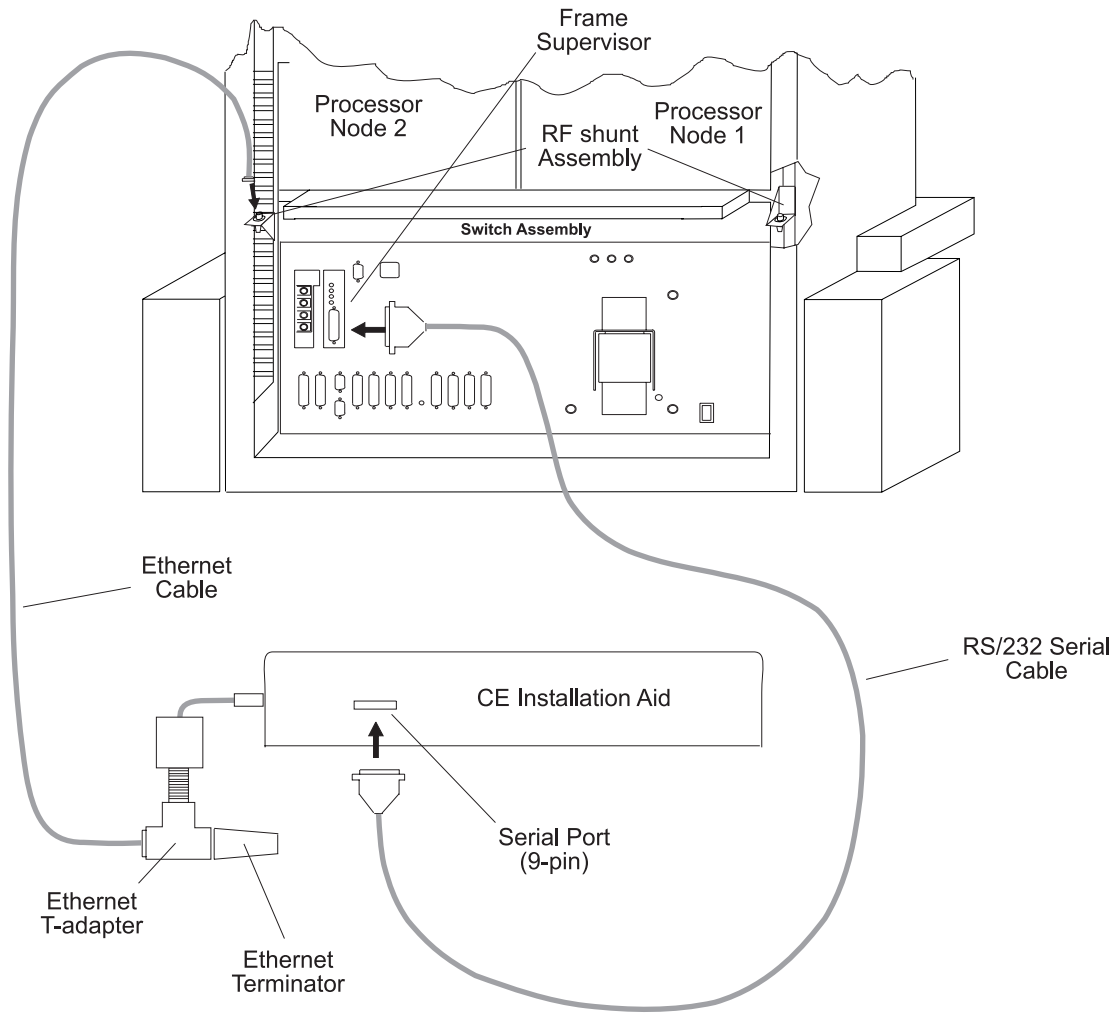

Figure 2-20. Connecting the CE Installation Aid (ThinkPad) to a frame
- c. Refer to the ThinkPad cabling diagram, Figure 2-20 on page 2-32.